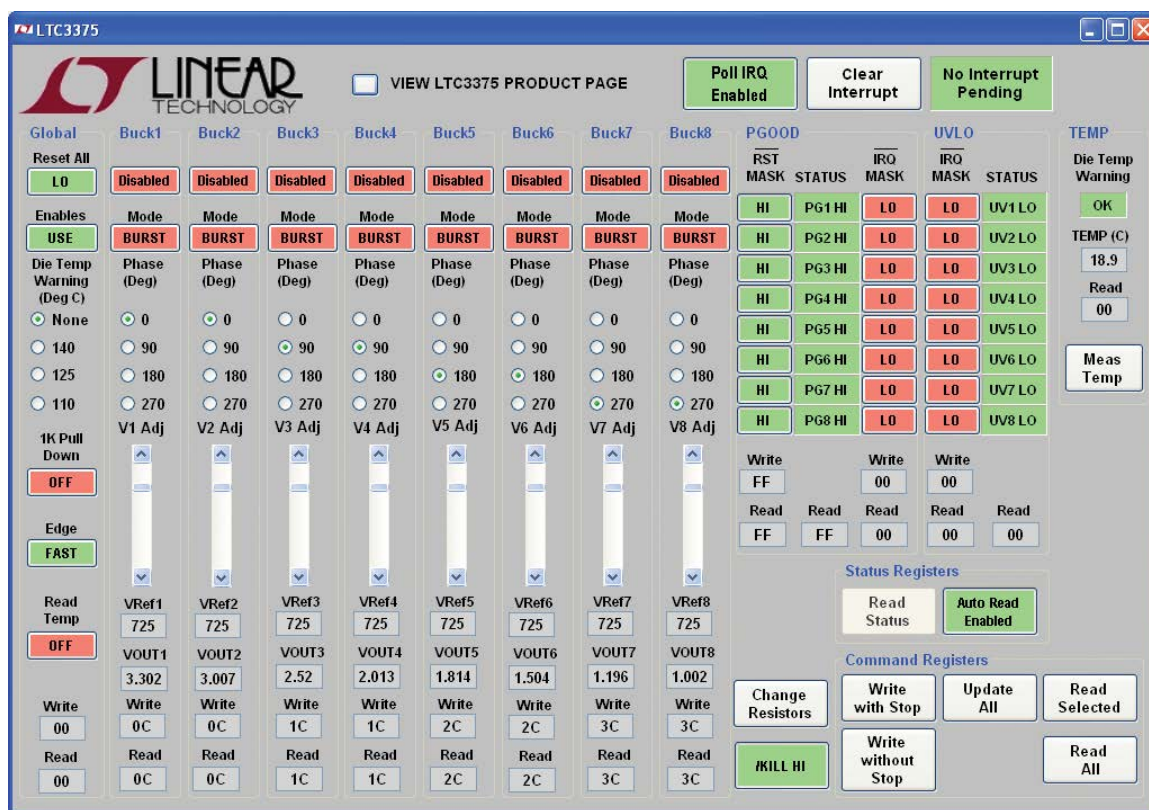

Figure 3. LTC3375 Control Window
11. Start the Linear Technology QuikEval program. This program should automatically detect the presence of the LTC3375 demo board (DC1921A) and activate the appropriate GUI, as seen in Figure 3.
The LTC3375 program provides control of the operating mode, switch node slew rate, phasing and reference voltage of the buck regulators. It also allows the user to monitor the contents of the PGOOD and UVLO status registers. Refer to Figure 3 for an illustration of the LTC3375 control window.